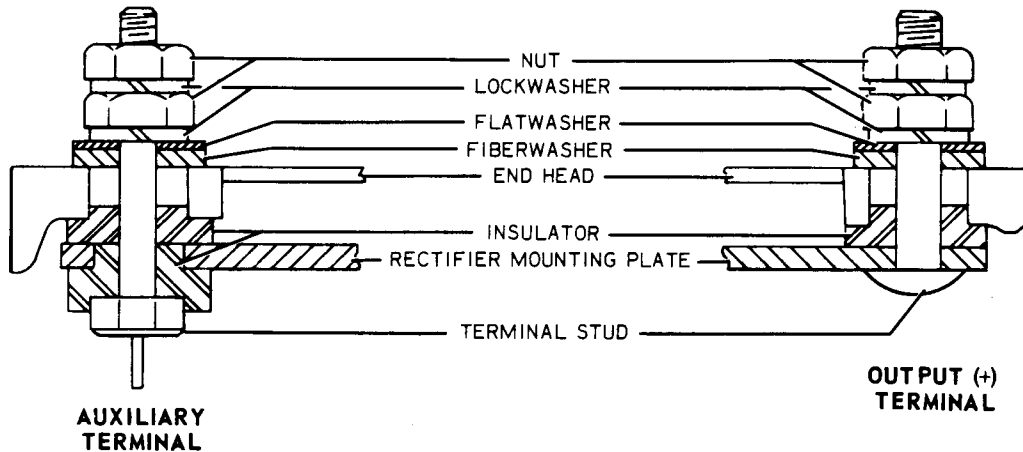

Figure 11-32. Terminal Assembly
- c. Reassemble the rectifier mounting plate studs and insulators, making sure they are in the correct order. (Refer to Figure 11-32.)